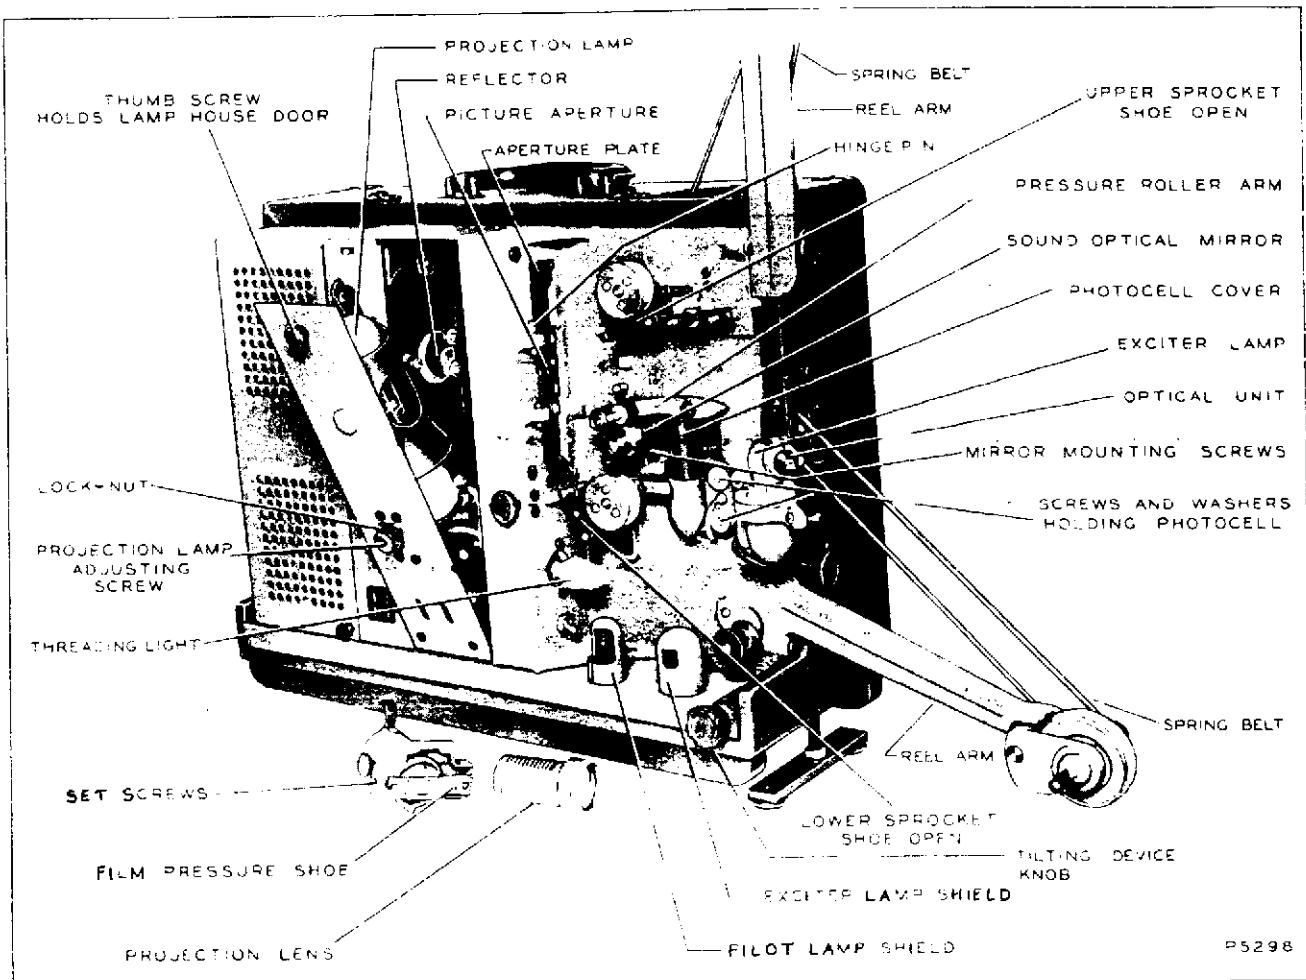

Figure 8—Cleaning and Maintaining Projector
- (1) Remove all dust from the larger surfaces of the projector.
(2) Clean the two sprockets with the bristle brush supplied, moistened with carbon tetrachloride. Make sure that all dust and emulsion deposits are removed from the teeth.
(3) Remove the film gate. (This can be done by lifting the hinge pin (fig. 8) against the spring holding the pin down.) Inspect the aperture plate and the film shoe very carefully. Remove any accumulated emulsion and other dirt with a soft cloth, or if necessary to reach into the corners, with a flat-pointed toothpick. After all visible dirt is removed, feel over the entire surfaces of both the aperture plate and the pressure shoe to make sure that nothing abrasive remains.
(4) Clean the sound drum with a soft cloth moistened with carbon tetrachloride. Be particularly careful to remove all dirt from the back edge of the drum. Avoid touching the sound optical mirror.
(5) Clean the pressure roller with a soft cloth moistened with carbon tetrachloride.
(c) Loosen the locknut (fig. 8) so that the adjusting screw is released.
b. *Exciter Lamp.* This lamp is of the pre-focused type and should require no adjustment after it has been seated properly in its socket. To replace it, refer to figure 8 and follow the directions below.
(1) Loosen the thumbscrew (fig. 8) that holds the sound optical bracket to the projector frame and swing this bracket away from the frame.
(2) Remove the exciter lamp shield by tilting it away slightly from the optical unit, and raising it out of the clamping fingers.
(3) Turn the lamp to the left until the holes in the flanges on the lamp base line up with the pins in the lamp socket. Then lift the lamp out.
(4) Insert a new lamp in the socket so that the holes in the base flange are over the pins in the socket. Turn the lamp to the right until it
(5) Clean the lamp inserted and then replace the shield.
c. *Photocell.* To replace the photocell, proceed as follows (fig. 8):
(1) Open the sound optical bracket as in b above. This permits access to the photocell.
(2) Remove the two machine screws which hold the photocell bracket in place.
(3) Pull the photocell bracket away from the projector frame. Remove the photocell cover and the photocell.
(4) Insert a new photocell in the socket and clean the glass with a soft, lintless cloth.
(5) Replace the photocell cover, making sure that the index slot in the cover lines up with the pin in the bracket, and press down firmly.
(6) Replace the photocell bracket and secure it with the two machine screws. Be sure the photocell bracket or cover does not touch the frame, thereby hindering the shock mounting.
(7) Close the optical bracket and fasten it with the thumbscrew.